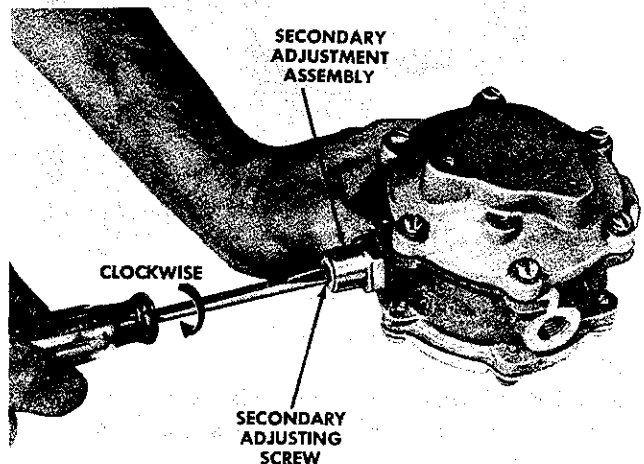

FIGURE 24
1. Seat secondary adjusting screw by turning it to the right (clockwise) until it bottoms. Figure 24.